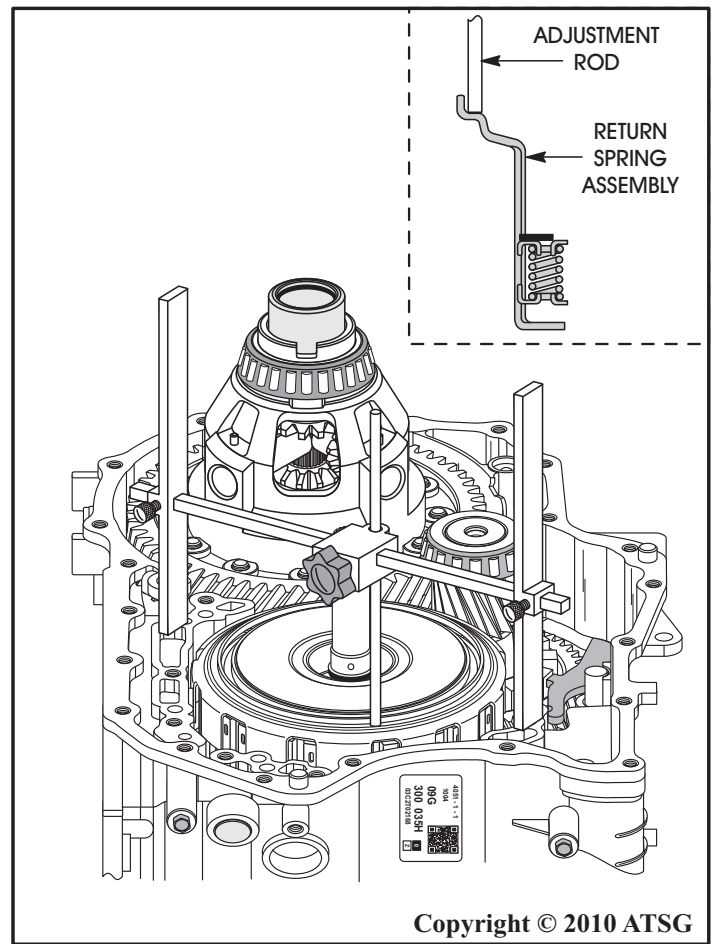

Figure 183
42. Install "H" gage on transaxle pump surface, as shown in Figure 183, lower the adjustment rod to the piston surface (See Inset in Figure 183) of the B1 apply ring/return spring assembly and tighten the adjustment rod locking knob.